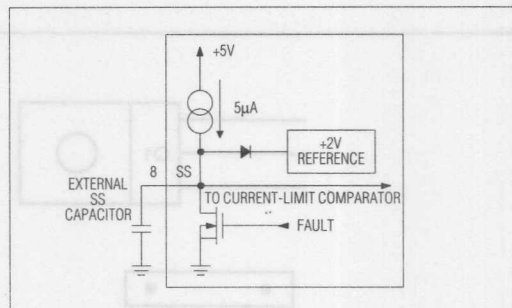

Figure 8. Soft-Start Equivalent Circuit
A capacitor connected between Soft-Start (SS) and ground limits surge currents at power-up. As shown under Typical Operating Characteristics, the peak switch current limit is a function of the voltage at SS. SS is internally connected to a $5\mu A$ current source and is diode-clamped to $2.6V$ (Figure 8). Soft-start timing is therefore set by the SS capacitor value. As the SS voltage ramps up, peak inductor currents rise until they reach normal operating levels. Typical values for the SS capacitor, when it is required at all, are in the range of $1\mu F$ to $10\mu F$.